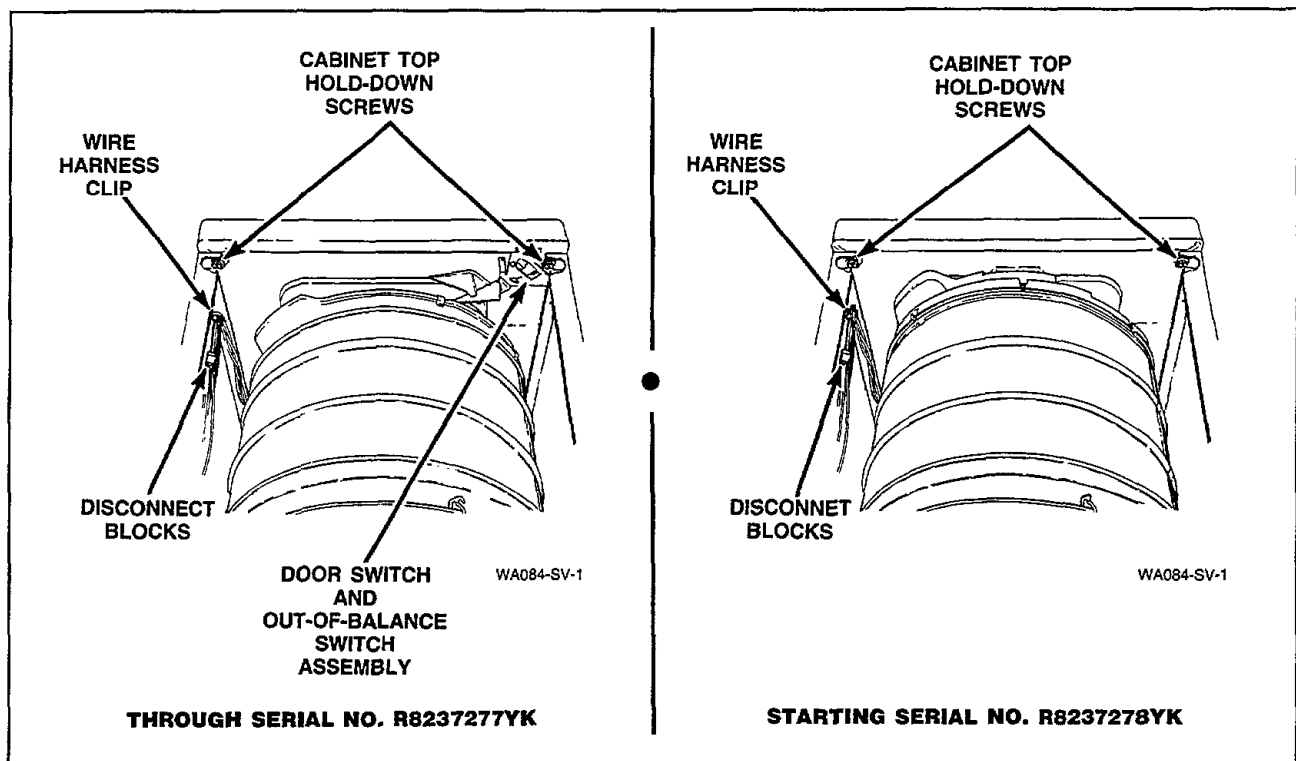

Figure 28
- b. Disconnect the motor wire harness from the base wire harness at the disconnect blocks, *Figure 28*.
- Pull bottom of panel away from washer until hold-down clips (located on top flange of panel disengage from slots in cabinet top, *Figure 28*.
- Remove the two cabinet top hold-down screws, *Figure 28*.
- f. Remove the two cabinet top hold-down screws, *Figure 28*.